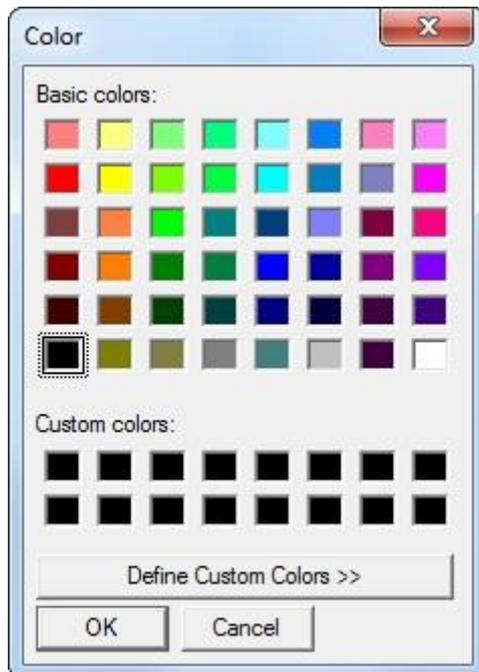

Fig. 47 Color of the DataSet.
- **Color** is used to change the line and data marker outline color of the DataSet in the graph (Fig. 47).